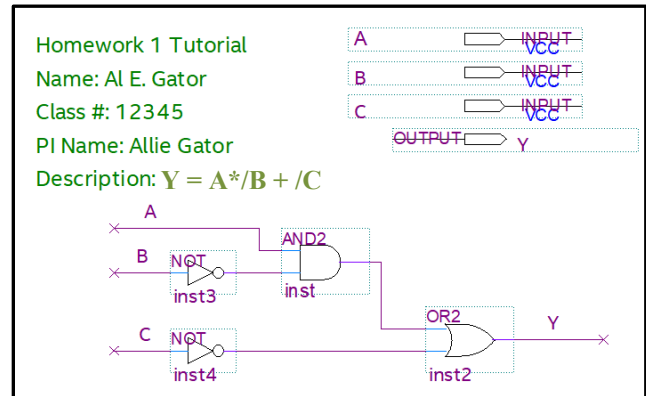

Figure 4: BDF with inputs and outputs
- 1) In the same manner that you placed a gate onto the BDF, add three input pins from the “Symbol” libraries. Input pins can be found under “primitives | pin | input” (or just type **input** just as you typed **not** previously in the “Name:” box). I suggest placing these inputs together, above your logic diagram and just to the right of your name as shown in Figure 4.
- 3) In the same manner and in the same library that you found the input pins, add an output pin from the “Symbol” library. I put this output pin under and to the right of the input pins. Change the pin name to ‘Y’ on the output port, as shown in Figure 4.
- 6) The “A” label will connect the input labeled “A” to this wire. Similar connections are made by the labels on the other inputs and output. The BDF should look similar to Figure 4.